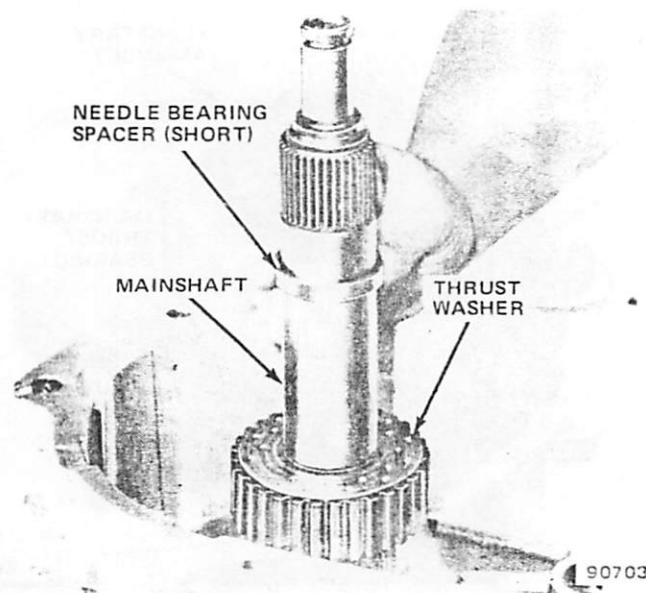

Fig. 2D-64 Mainshaft and Thrust Washer Installation
(14) Align mainshaft thrust washer in input gear, if necessary.
(15) Install mainshaft. Be sure shaft is fully seated in input gear.
(16) Install mainshaft thrust washer on mainshaft (fig. 2D-64).
(17) Apply liberal coating of petroleum jelly to mainshaft needle bearing surface and to all 82 needle bearings. Install 41 bearings on shaft. Be sure bearings are in vertical position and seat on mainshaft. Use additional petroleum jelly to hold bearings in place if necessary (fig. 2D-65).